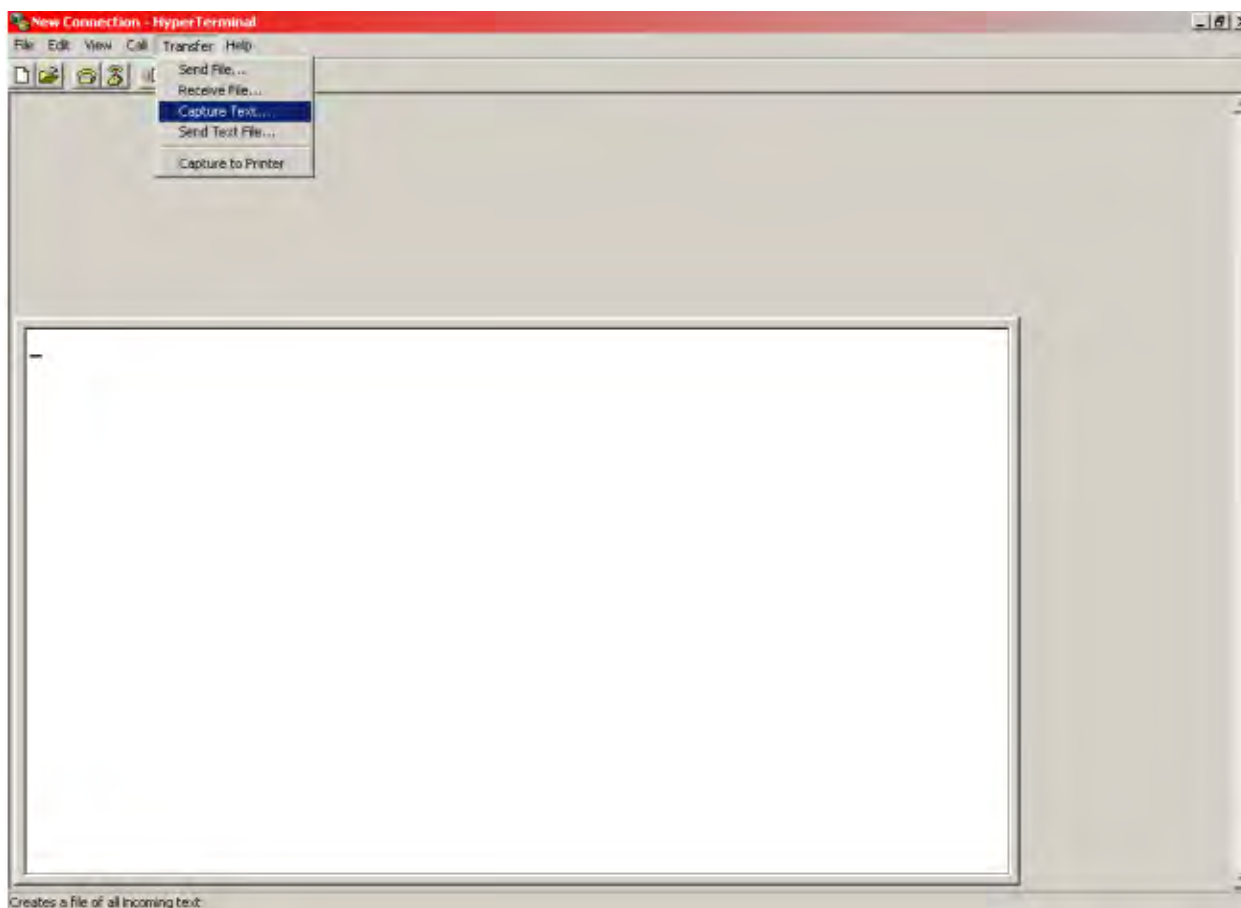

Figure 9-6 Capture Text Feature
2. Display the error log by typing **ShowErrorLog**. Using the Hyper Terminal, save the error log to a file by selecting **Capture Text...** from the **Transfer** drop-down menu (Figure 9-6). The **Capture** feature in the menu bar at the bottom of the screen darkens to show text is captured.